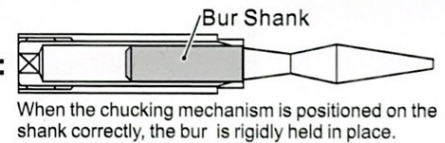

Fig. 2
- Do not use short shank burs on the Standard or Torque head handpiece. In case such needs to be used, locate the chucking mechanism on the bur shank, and not on the shank taper on the cutting edges. (Fig. 2)